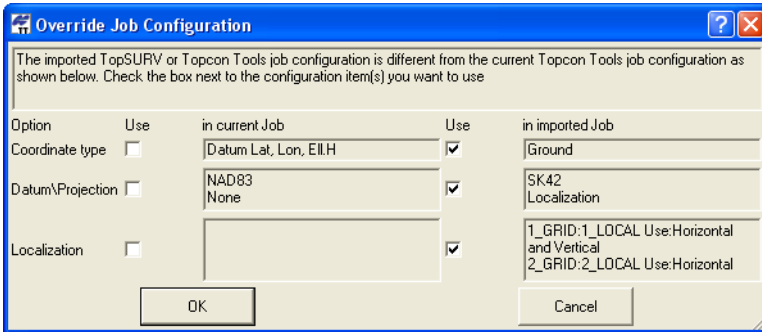

Figure 3-20. Configuration Override Notice – Example
If the imported Topcon Tools job configuration is different from the current Topcon Tools job configuration, the **Override Job Configuration** dialog box displays. Select the configuration to override and click **OK** (Figure 3-20).
1. To import a Topcon XML file on a computer into Topcon Tools, with a job open, either click **Job ► Import**, press **F3**, or click the **Import** button on the Toolbar (Figure 3-20 on page 3-24).
5. Click **Open** to import the file (Figure 3-20).